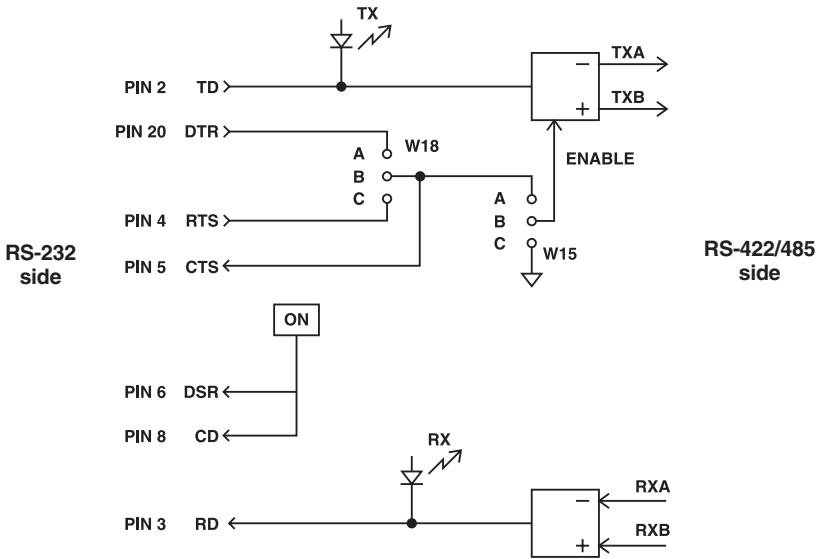

Figure 5-1. Block diagram of Converter functions in DCE mode.
Data traveling from the RS-232 interface to the RS-422/485 interface: When the RS-232 port is configured as DCE (see Figure 5-1 on the next page), data received on RS-232 Pin 2 (TD) will be transmitted out through TXA and TXB on the RS-422/485 port. For this transmission, RTS (or DTR, depending on the position of W18) must be asserted. In other words, before you can send any data through the Converter from the RS-232 side to the RS-422/485 side, one of these conditions must be met: Either (1) the RS-232 device must assert RTS/DTR and then receive CTS true (that is, ask for and then be given permission to send), or (2) the Converter must be set to keep RS-422/485 driver is always enabled (W15 set to the B and C position—see step 3 in **Chapter 3**).